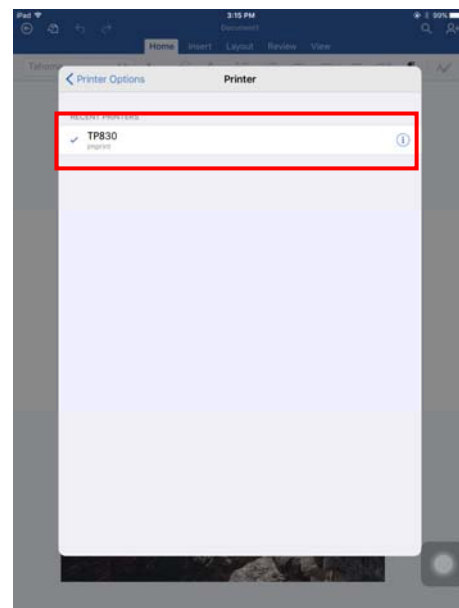

Figure 42
2.6 Select “TP830” in the list, as shown in Figure 42.